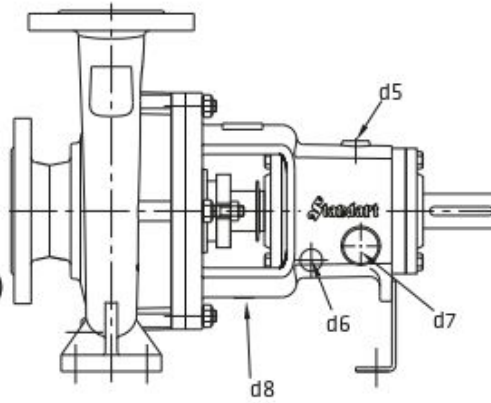

Figure 5
- Every pump is fitted with connections on the pump casing to drain the pump and the bearing bracket to evacuate the seal leakage from the stuffing box (**Figure 5,6**). If required the pump drain and seal leakage can be piped to a suitable reservoir. The pump draining piping must be fitted with an isolating valve and both must be suitable for the maximum operating pressure of the pump.